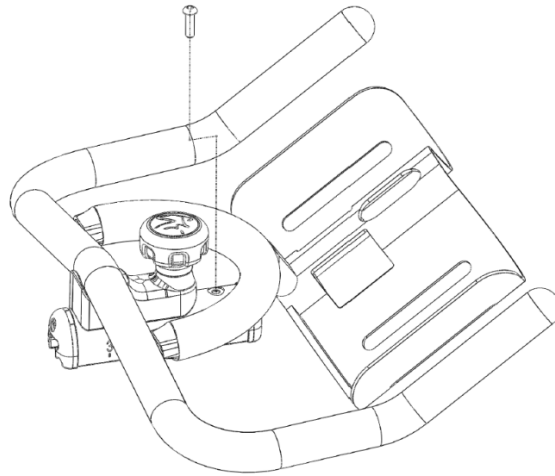

Fig. 19
19. Locate the handle bar assembly and remove the button head stop bolt that is pre-inserted into the slider section (Fig. 19).